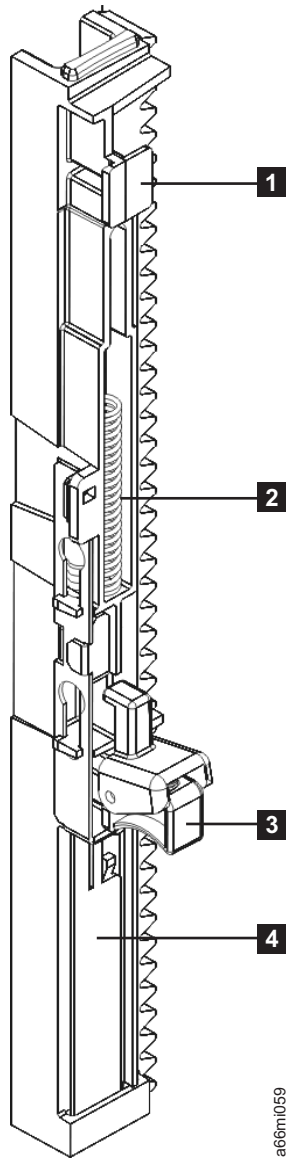

Figure 8-57. Gear rack (detail)
Note: Don't lose the spring (**2** in Figure 8-57 on page 8-60) that is recessed in the gear rack slot.
2. Using your thumb, push the metal slide (**4** in Figure 8-57 on page 8-60) toward the gear rack locking mechanism (**3** in Figure 8-57 on page 8-60) and hold it in place while inserting the black tab (**1** in Figure 8-57 on page 8-60) and locking mechanism into the keyhole slots in the library chassis.